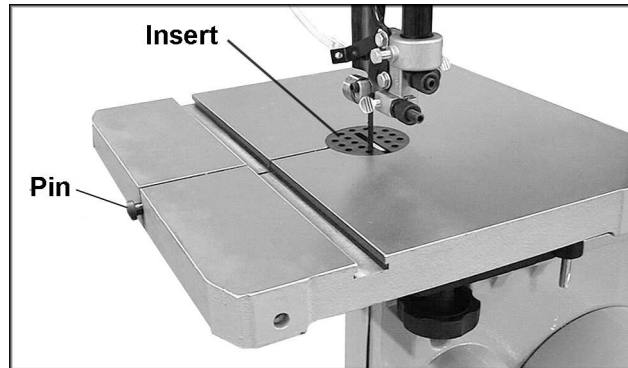

Fig. 8
13. To mount the main table, remove pin and insert from the table (Fig. 8).
15. Replace pin and insert (Fig. 8).